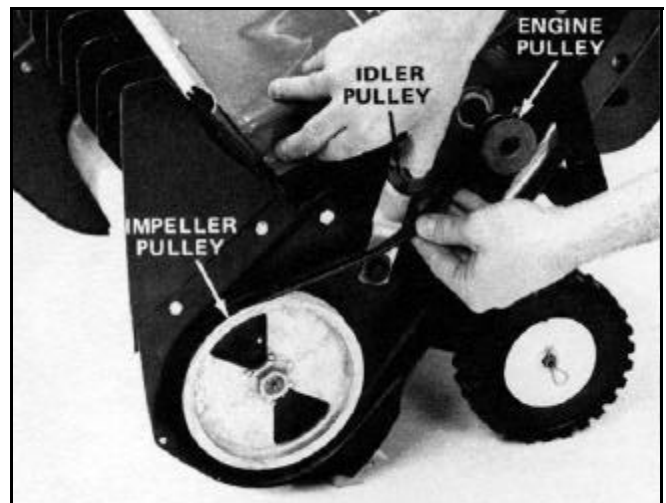

Figure 59
3. Move the idler pulley up and away from the V-belt and pull the belt out so it is free; then allow the spring loaded idler to release (Figure 59).